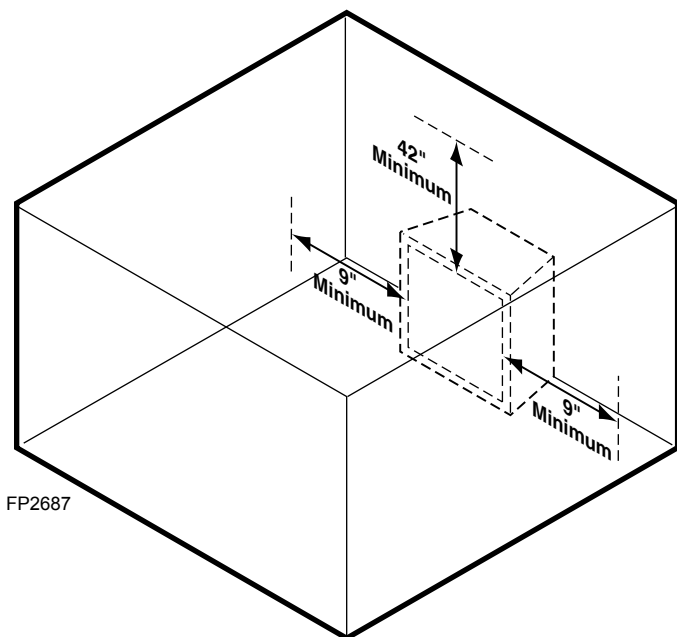

Figure 4 - Clearance and Height Requirements
Ensure that minimum clearances shown in Figures 4 through 8 are maintained. Left and right clearances are determined when facing the front of the firebox.
1. **Sidewall clearances:** The clearance from the inside of the appliance to any combustible wall should not be less than 9". *Figure 4*
2. **Ceiling clearance:** The ceiling must be at least 42" from the top of the firebox opening. *Figure 4*